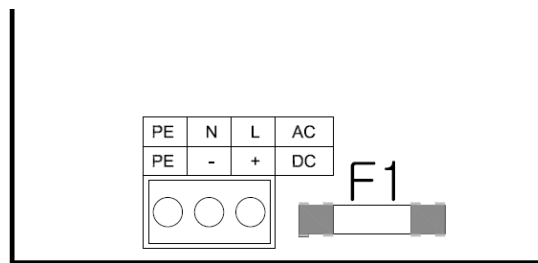

Figure 6. Mains cable connection
2.3.7 Connecting the AC supply (see fig 6)